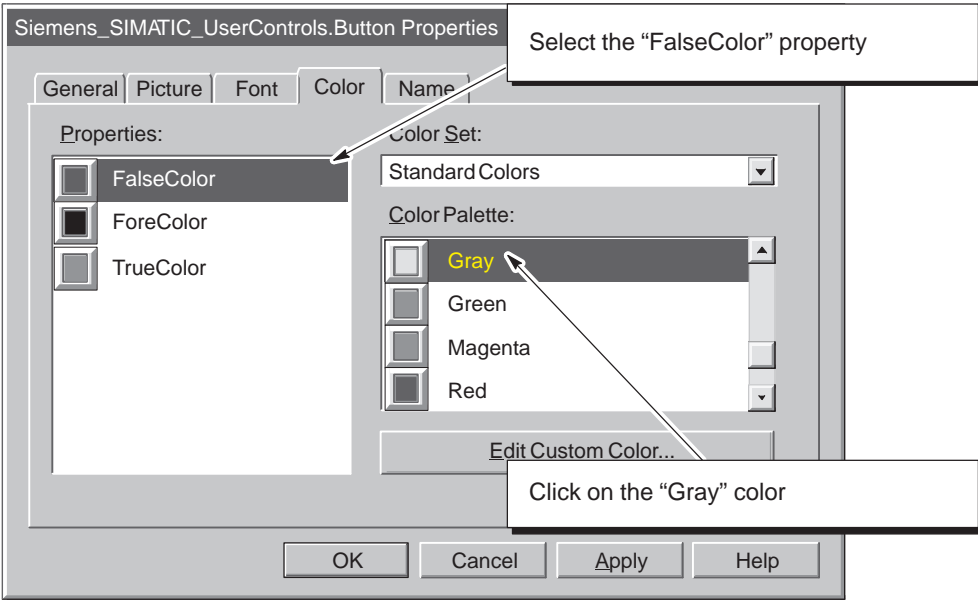

Figure 3-25 Configuring the False Color for Button2 (Button control 2)
8. Select (click on) FalseColor in the “Properties” box and click on the color Gray in the “Color Palette” box. See Figure 3-25.